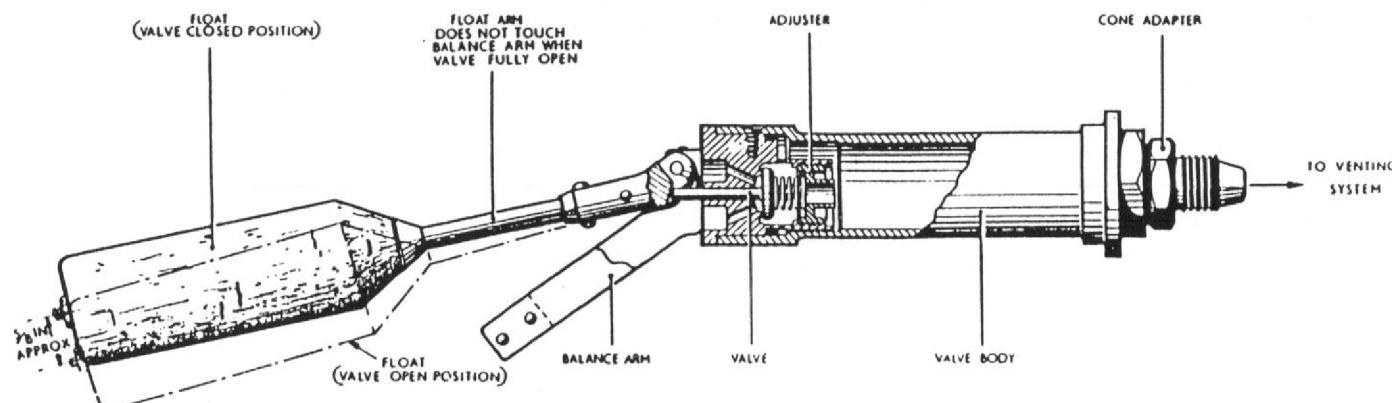

Fig. 6 Vapour release valve
**Vapour release valves (Fig.6)**